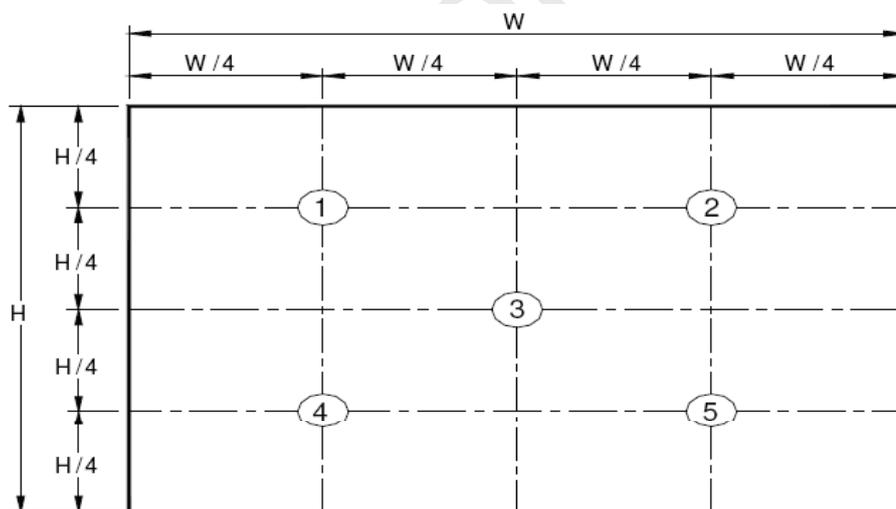
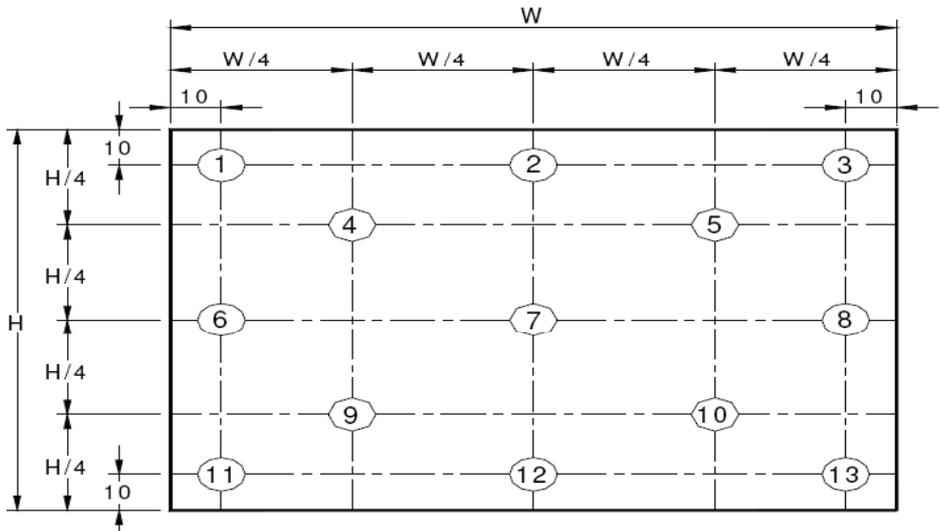

Figure 8. White Luminance and Uniformity Measurement Locations (5 points)
Figure 9. Uniformity Measurement Locations (13 points)
3. Center Luminance of white is defined as luminance values of 5 point average across the LCD surface. Luminance shall be measured with all pixels in the view field set first to white. This measurement shall be taken at the locations shown in Figure 8 for a total of the measurements per display.
4. The White luminance uniformity on LCD surface is then expressed as : $\Delta Y = \text{Minimum Luminance of 5(or 13) points} / \text{Maximum Luminance of 5(or 13) points.}$ (see Figure 8 and Figure 9).
The White luminance uniformity on LCD surface is then expressed as : $\Delta Y5$ = Minimum Luminance of five points / Maximum Luminance of five points (see Figure 8) , $\Delta Y13$ = Minimum Luminance of 13 points /Maximum Luminance of 13 points (see Figure 9).